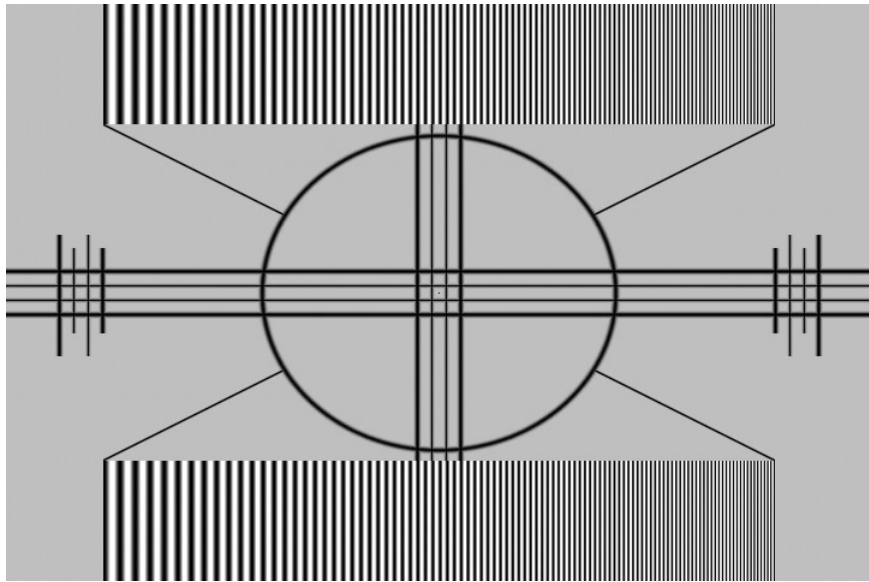

**Figure 4-5. Typical Test Pattern for Adjusting Sharpness**
**Sharpness:** “Sharpness” is the amount of high-frequency detail in the image. To adjust sharpness, select Sharpness from the Picture menu and press **ENTER**. On your external test pattern source, select a pattern like the one shown in Figure 4-5. Adjust as needed, looking for white edges around the transitions from black to gray and different sized lines in the “sweep” patterns at the top and bottom. Lower the sharpness setting to eliminate them.